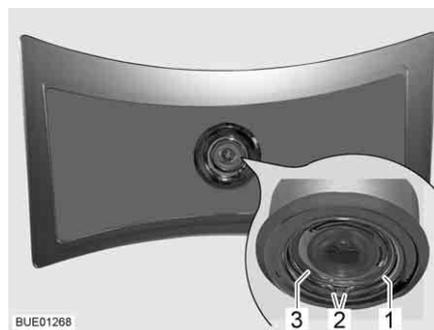

Fig. 210 Ceiling lamp
- Press the two ends (Fig. 210,2) of the spring ring (Fig. 210,1) together and remove.
- Remove the housing (Fig. 210,3) with LED from the lamp.